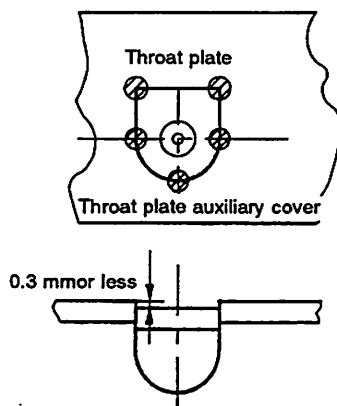
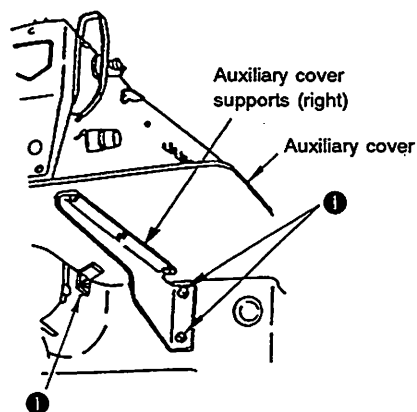

Fig. 5-25-1
Fig. 5-25-2
<ul style="list-style-type: none"> Loosen six setscrews ❶ (three setscrews in both the left and right) of the throat plate auxiliary cover supports, and adjust so that the throat plate auxiliary cover is positioned higher than the throat plate by 0.3 mm or less. Then tighten the setscrews. At this time, be careful to adjust the points marked by the portion (⊗) (Fig. 5-25-1). (Fig. 5-25-1, Fig. 5-25-2) 	<ul style="list-style-type: none"> The feed plate will be caught by the stepped parts formed by the throat plate and the throat plate auxiliary cover resulting in a deformed pattern. The feed plate may bend.